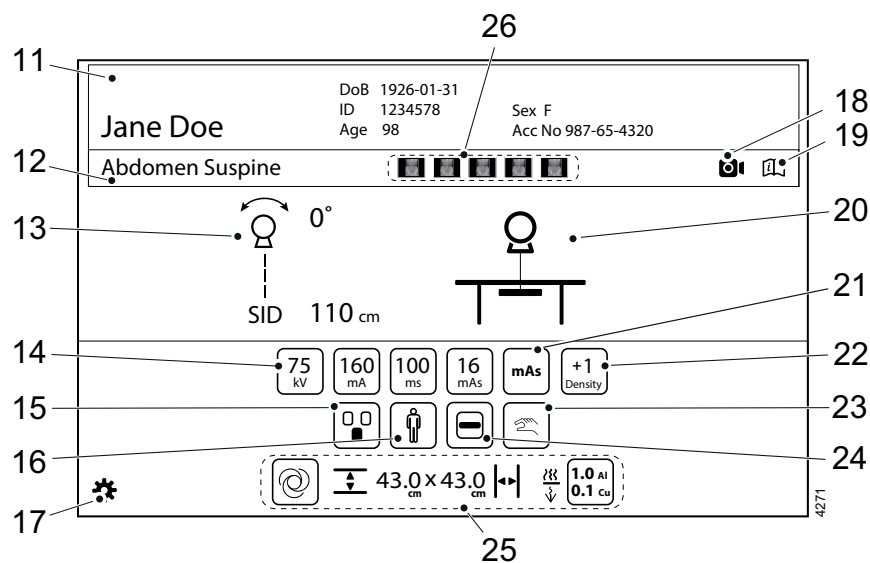

Fig. 3-2
10. Display user interface, see Fig. 3-2